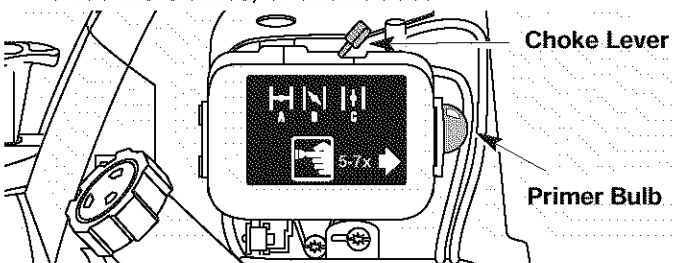

Fig. 8
4. Place the choke lever in the **FULL choke (A) |←|** position (Fig. 8).
NOTE: Slide the choke lever directly above the appropriate symbol on air filter cover decal (Fig. 8).
5. Fully press and release the primer bulb slowly 7 times. Gasoline should be felt and visible in the bulb (Fig. 8). If gasoline has not entered the bulb, press three more times, or until it does.
8. Move the choke lever to the **PARTIAL (B) |↖|** position (Fig. 8).
2. Move the choke lever to the **PARTIAL (B)** position (Fig. 8).
3. Fully press and release the primer bulb slowly 7 times. Gasoline should be felt and visible in the bulb (Fig. 8). If gasoline has not entered the bulb, press three more times, or until it does.